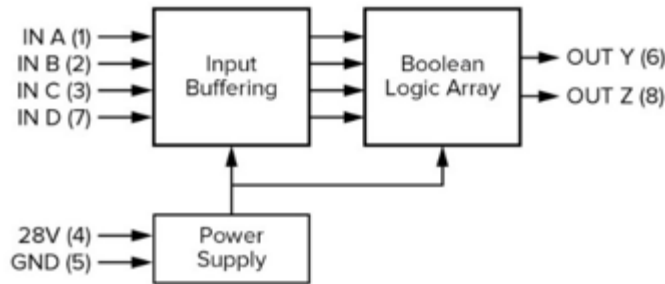

FIGURE 26. Defined Logic.
The internal circuitry also performs the function of a signal Buffer. See Figure 26.
The Defined Logic (DL) Series consist of four configuration types and standard design characteristics that are common to each. Each Defined Logic configuration is comprised of four inputs (A - D) and two outputs (Y and Z). See Figure 26 and Table XLIII. The options vary among each type, and the following describes the unique characteristics which differentiate the four Defined Logic products.